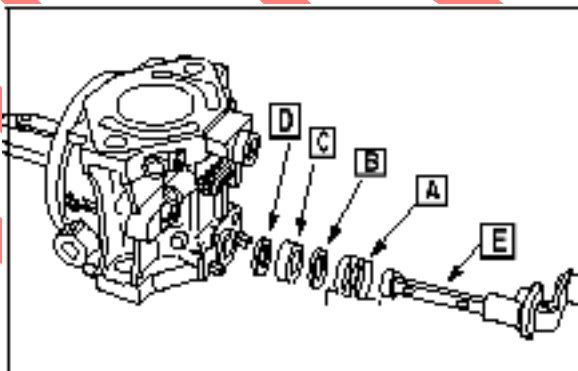

Fig. 83
Rotate throttle shaft to check for binding. Correct if required. Install spring (A), washer (B), bushing (C) and seal (D) to choke shaft ([E] Fig. 83). Insert shaft to carburetor body, Fig. 83.